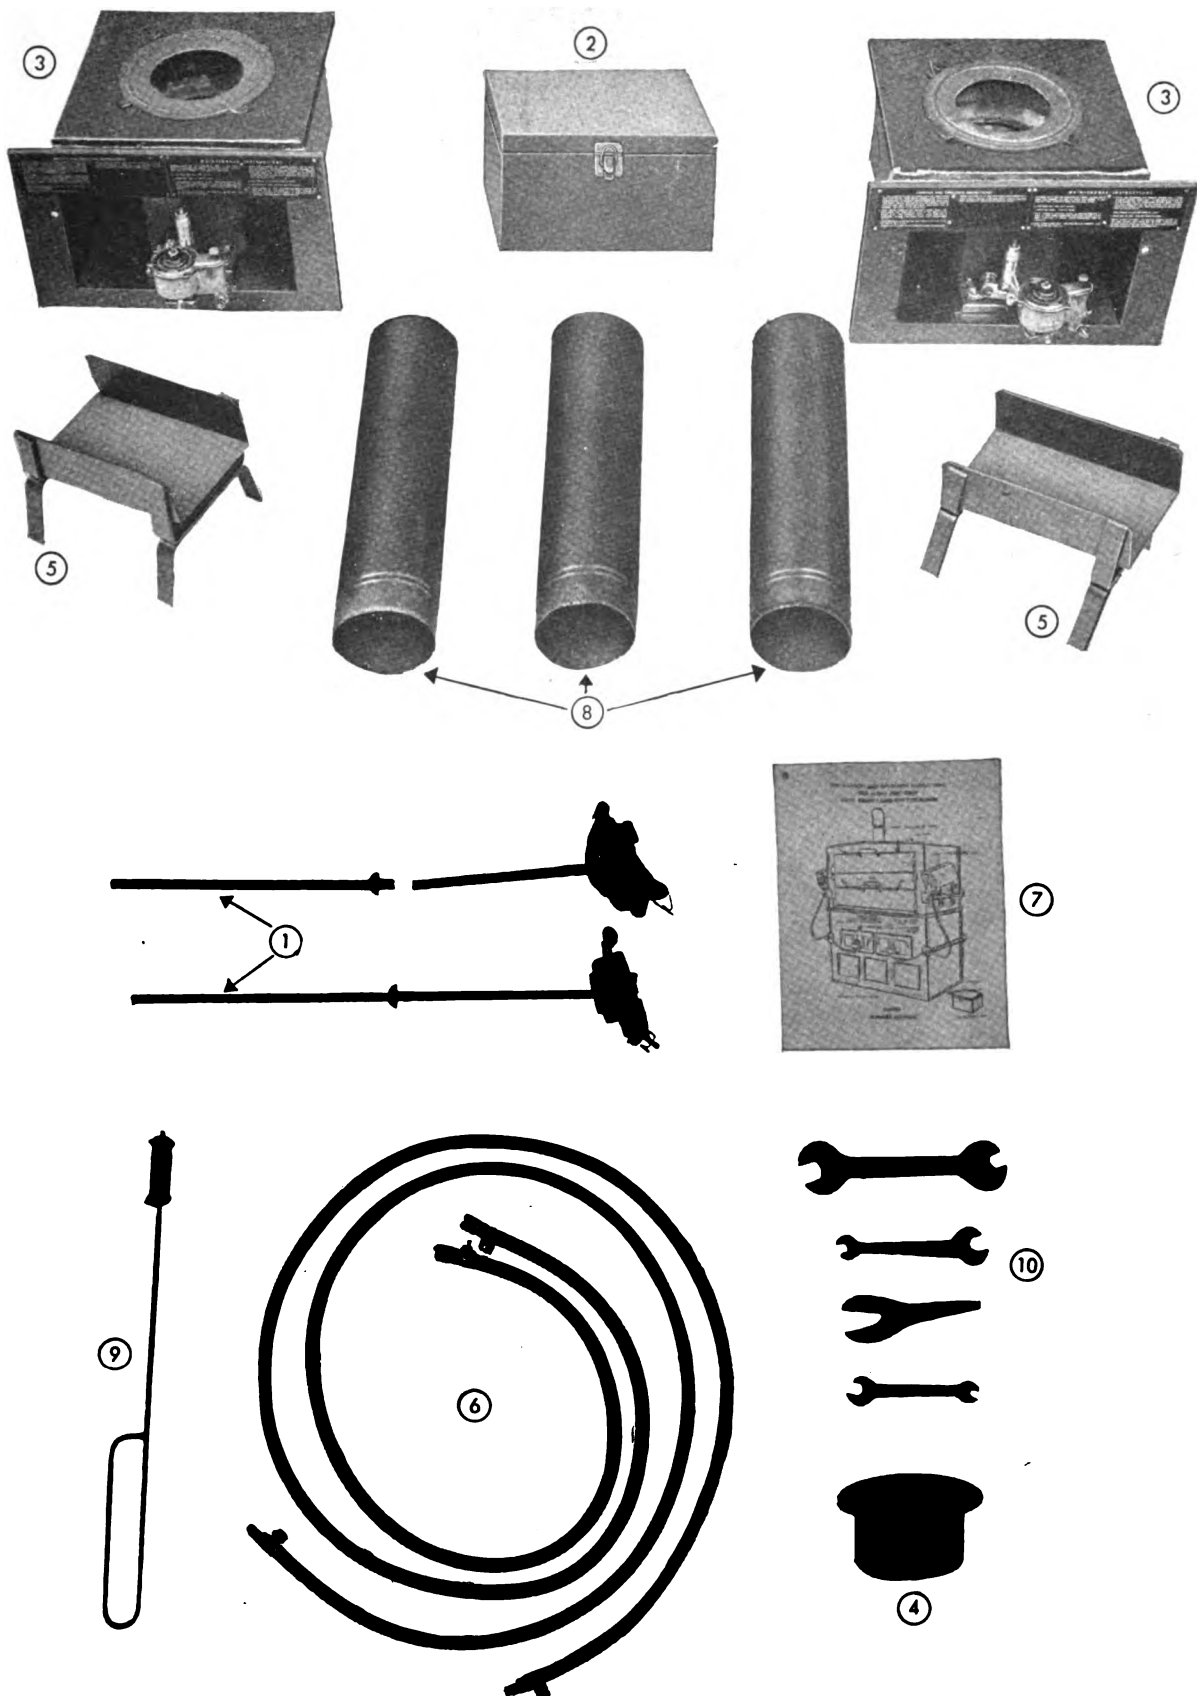

Figure 70. Parts for outfit, burner, pot type, oven, bake, field, M1942 (65-A-5040).
a. COMPONENTS. (1) The pot type burner is extremely simple in design and operation. Component parts of the outfit for one oven are as follows (see fig. 70):
(2) Contents of the box for tools and spare parts are as follows:
(6) Assemble the fuel can adapter into fuel can. The metal tube on the adapter is an air vent, made in two sections. (See fig. 70.)